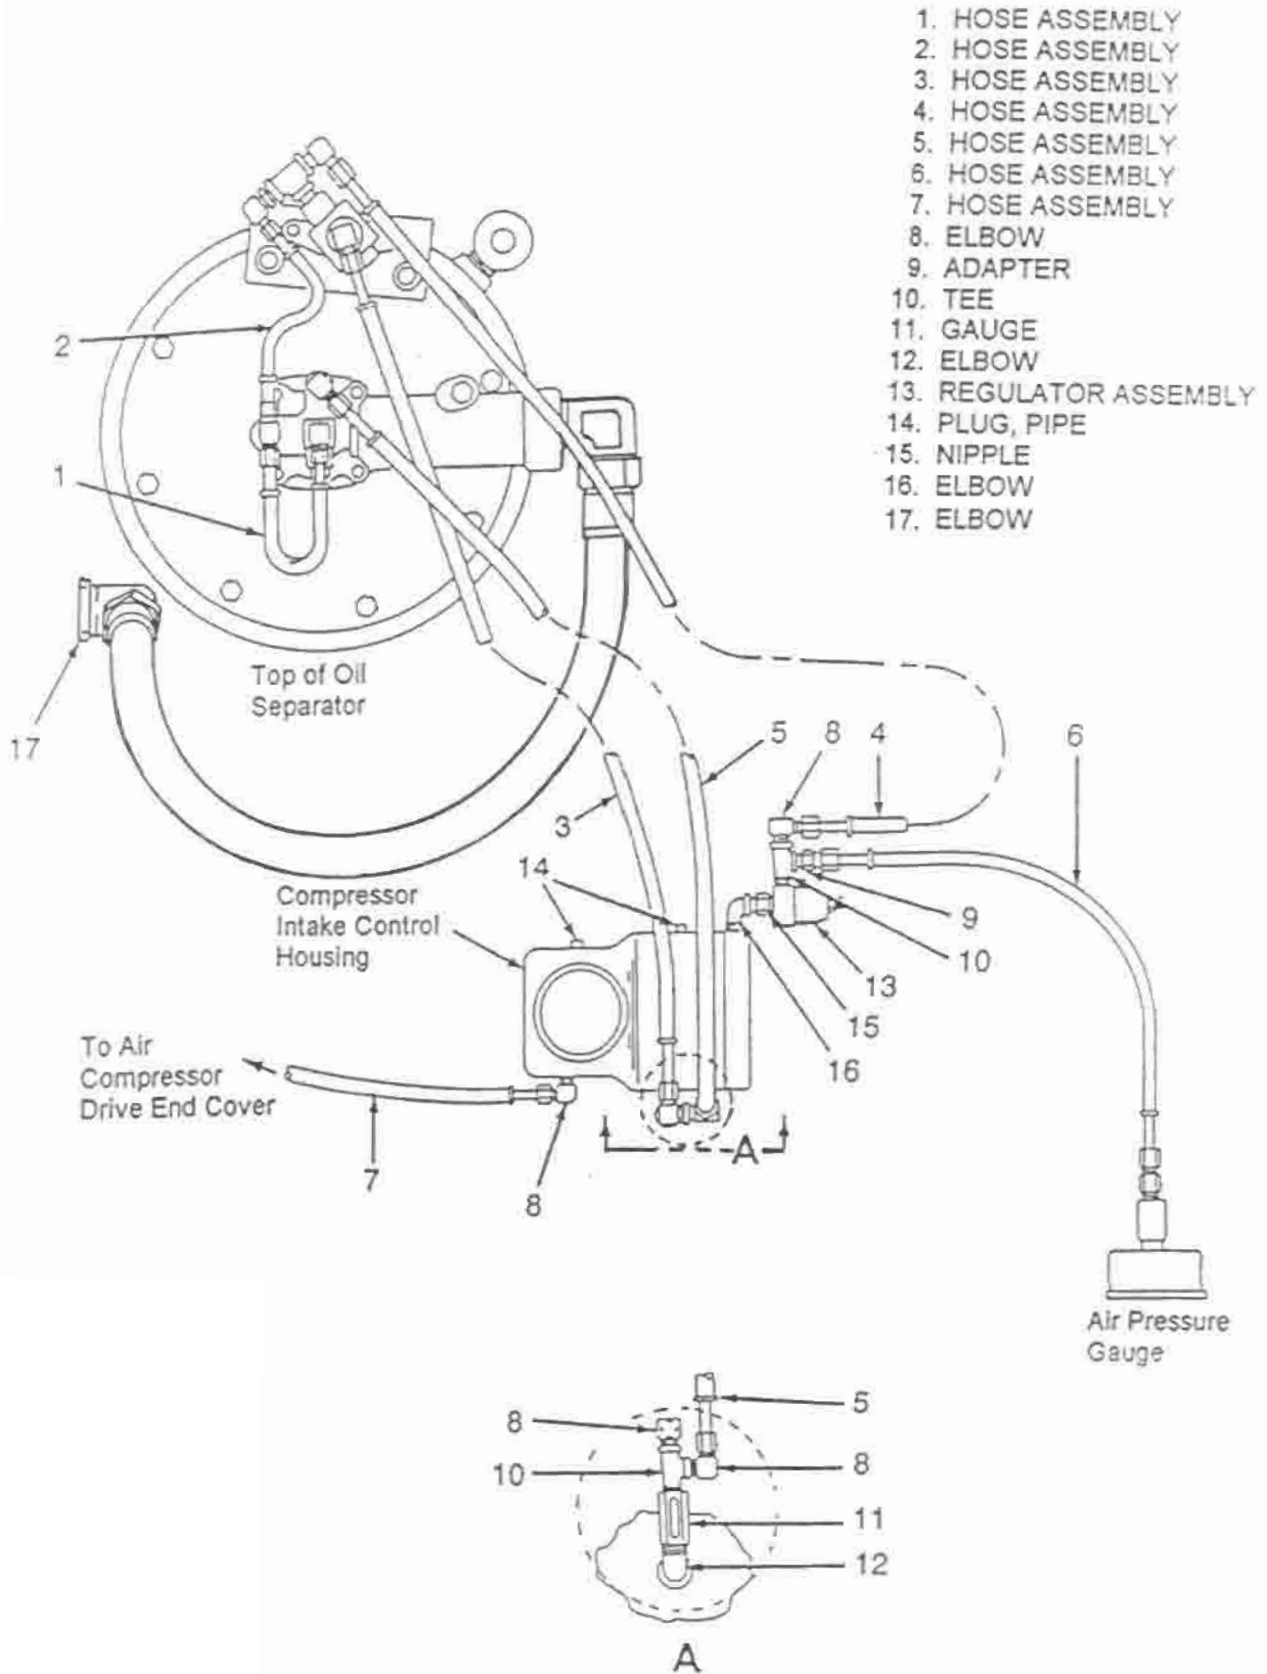
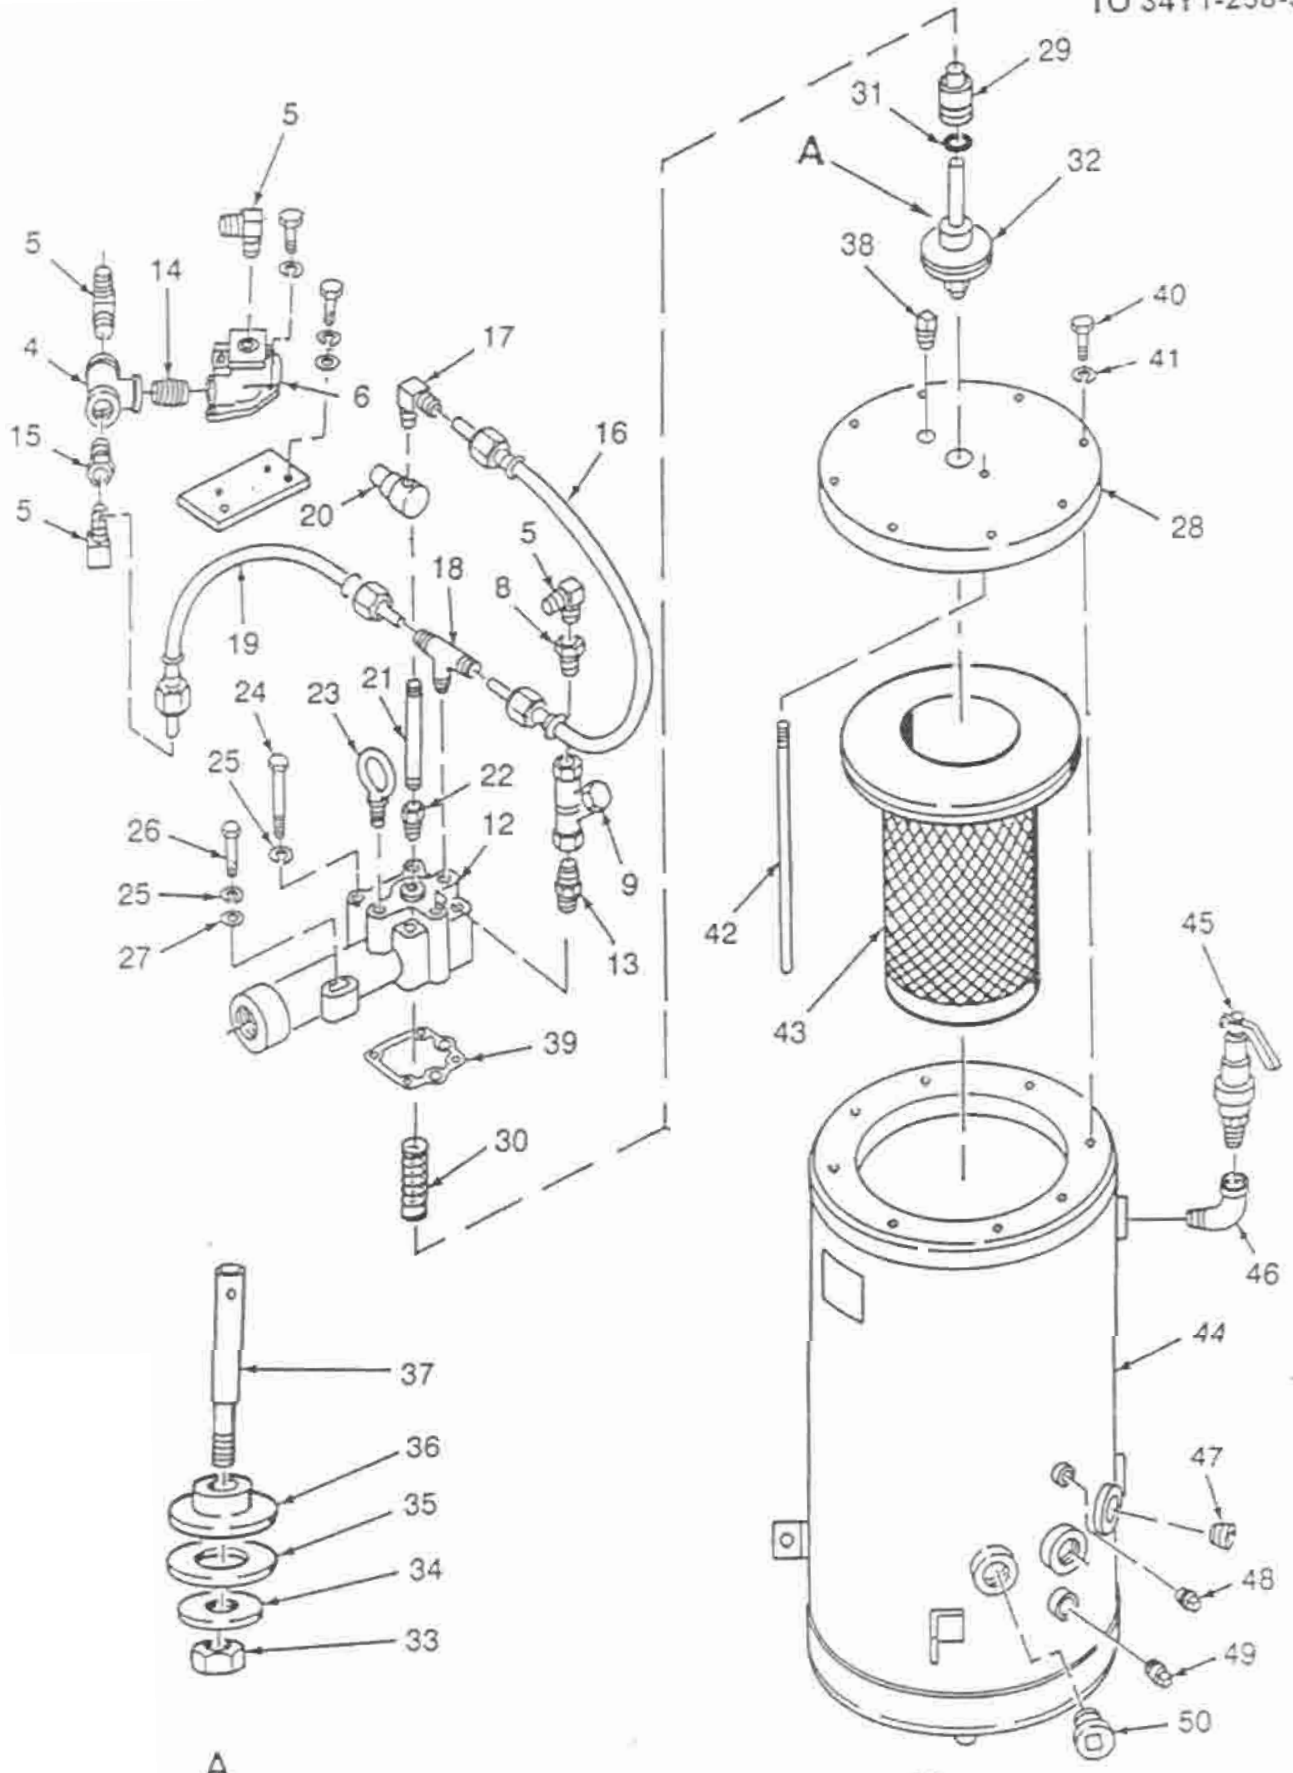

Figure 3-9. Oil Separator Assembly Removal
Figure 3-10. Oil Separator Disassembly
3-19. Air Compressor Assembly Removal (Refer to Figure 3-11). Remove roof assembly as necessary (para 3-11). Disconnect air hoses (3, 5, and 7) as follows, (Figure 3-9):
3-20. Oil Separator Assembly Removal (Figure 3-9).
a. Make certain that all air pressure is relieved from air system by opening air service valves at manifold (7, Figure 3-5) and by lifting safety air relief valve (45, Figure 3-10).
c. Remove manifold and service piping from oil separator minimum pressure valve housing (see Figure 3-10).
e. Remove blowdown valve assembly (6, Figure 3-10) as follows:
1. Mark and remove hose (2, Figure 3-9) from blowdown valve (6, Figure 3-10).
2. Mark and remove two hoses (3 and 4, Figure 3-9) from blow valve tee (6, Figure 3-10) and remove tee from blowdown valve housing; remove elbows (5), nipple (14) and bushing (15, Figure 3-10).
3. Remove blowdown valve (6) from minimum pressure valve housing (12, Figure 3-10).
4. Mark and remove hose (3, Figure 3-9) from "Y" orifice elbow (5, Figure 3-10). Remove elbow (5), orifice (8), strainer (9) and nipple (13) from housing (12, Figure 3-10).
f. Remove elbow (4, Figure 3-15), from bottom of separator body (44, Figure 3-10).
g. Remove nipple (5, Figure 3-15) from side of separator body (44, Figure 3-10).
3-21. Oil Separator Disassembly (Figure 3-10). After removing oil separator from compressor until (para. 3-19), disassemble oil separator as follows:
KEY TO FIGURE 3-10